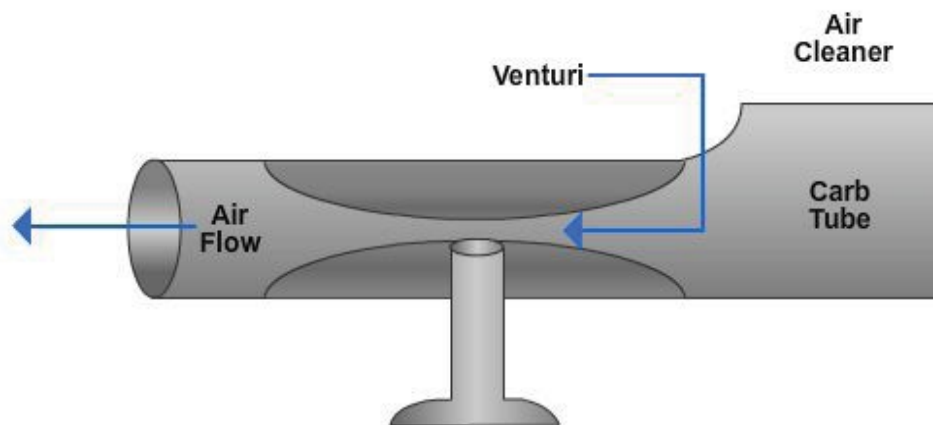

Figure 5-11 – Venturi effect.
3. **Venturi effect.** Carburetion would not be possible if not for the venturi effect. A venturi is a restriction in an air passage that increases air speed or velocity. This increase in velocity reduces pressure, causing fuel to be drawn into the air stream. The venturi effect is an example of the Bernoulli Principle. Fluid velocity must increase through the constriction in a tube. The kinetic energy is created by the drop in pressure. Carburetors use tubes called a venturi to achieve this effect. Particles of fuel are vaporized by air rushing through the venturi, as illustrated in *Figure 5-11*.